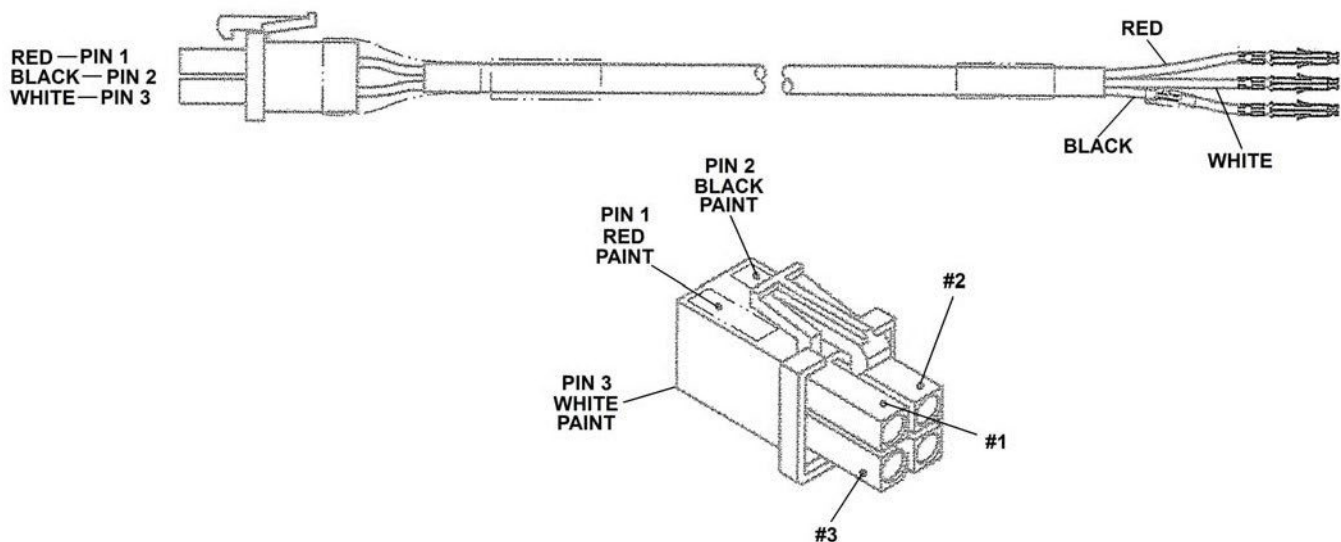

Figure 5. 941B0468 RF/ID AIM Extension Cable
14. Install the 941B0468 RFID AIM Extension Cable (see Figure 5):